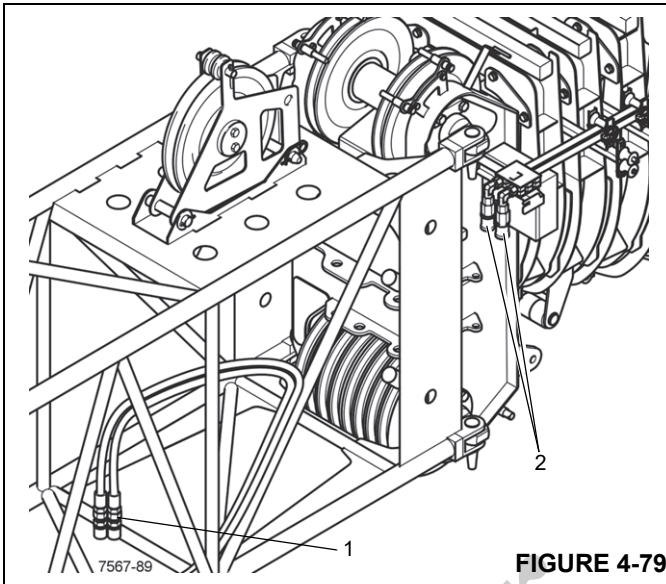

FIGURE 4-79
1. Disconnect the hoses (3) from the long hose ends (4) (Figure 4-79).
5. Disconnect the short end hoses (1) (Figure 4-79) from the 26 ft (8 m) extension from the boom nose connectors (2).